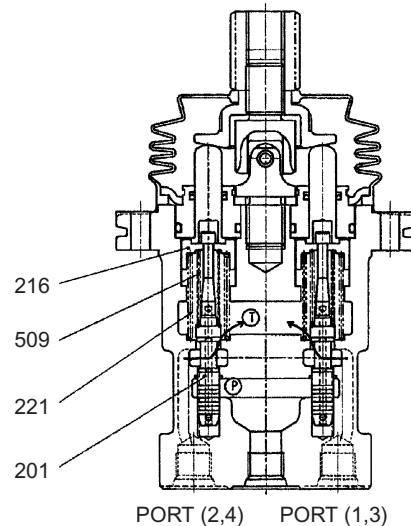

Fig. 24-59 Lever in neutral
(1) Lever in neutral (See Fig. 24-59)